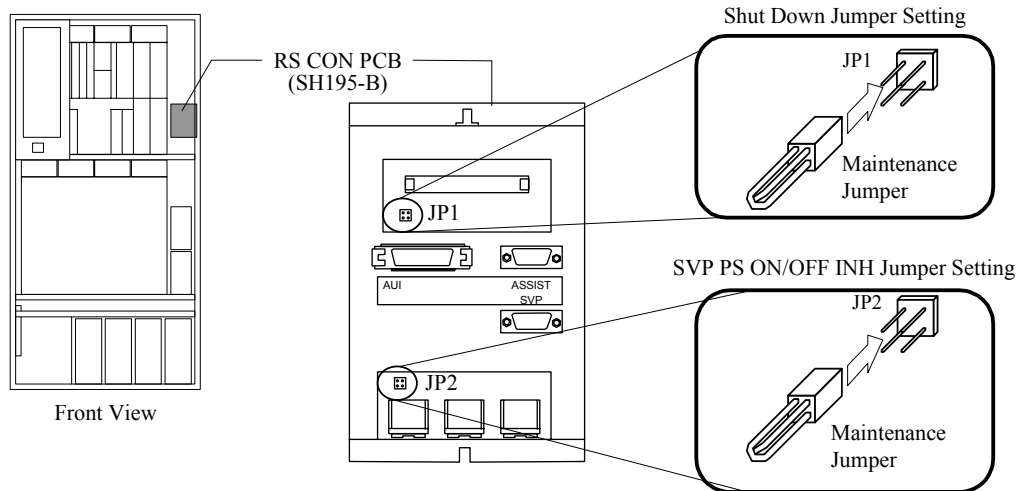

Fig. T7.1-2 Jumper settings of RS CON PCB
- a. Remove the maintenance jumper of the JP1 on the RS CON PCB. (See Fig. T7.1-2.)
- b. Insert the maintenance jumper into the JP2 on the RS CON PCB. (See Fig. T7.1-2.)
Insert the maintenance jumper into JP1 on the RS CON PCB. (See Fig. T7.1-2 [REP03-470].)
8. Pull out the maintenance jumper on the RS CON PCB or SVPPS BOX. (See Fig. T7.1-2 [REP03-470].)